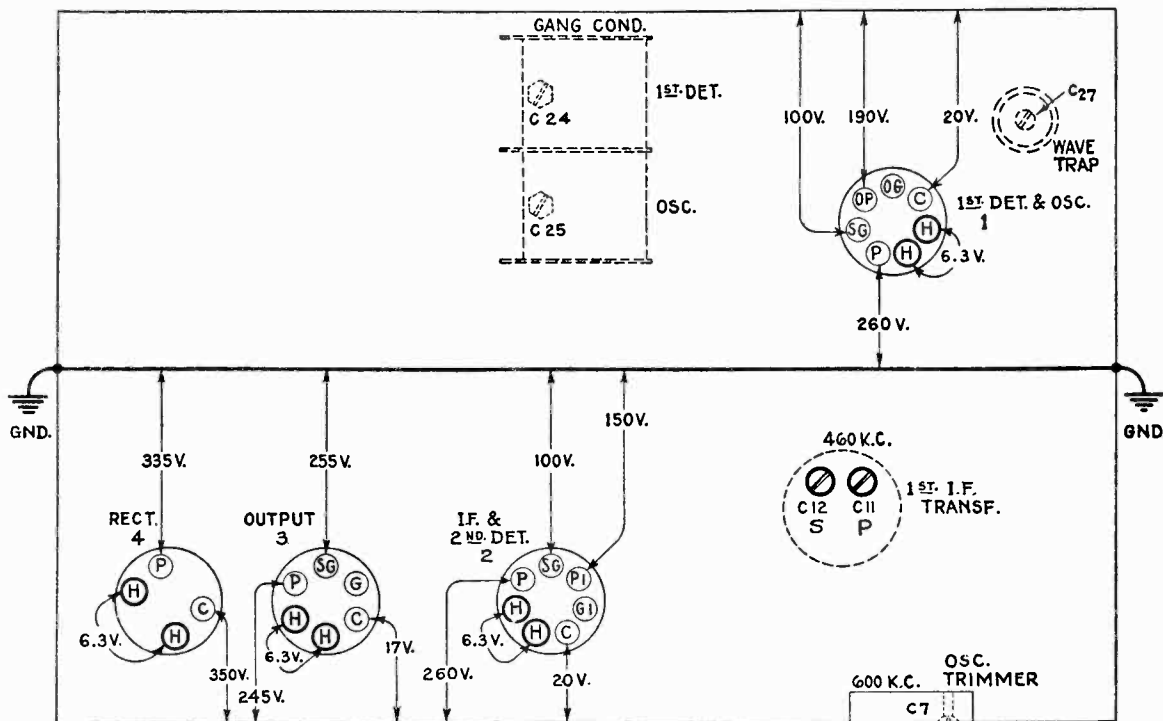

Figure 3—Trimmer Locations and Radiotron Socket Voltages to Chassis Measured at 120 volts A-C Supply—No Signal — Volume Control Maximum
Five aligning trimmers are provided, the physical locations of which are indicated on Figure 3. These trimmers are accurately adjusted during manufacturing tests and should remain in proper alignment indefinitely unless affected by abnormal conditions of temperature or humidity, or unless they have been altered for service purposes. Loss of sensitivity, improper tone quality and poor selectivity usually indicate necessity for re-alignment.
- (1) **Intermediate Frequency Amplifier**—The first i-f transformer has two trimmers identified as C-11 and C-12 on the diagram, Figure 3. Each must be tuned to 460 kc. by feeding a signal of this frequency from the Full Range Oscillator into the RCA-6A7 control grid and chassis-ground and adjusting both trimmers to the point giving maximum output. The oscillator output and the receiver volume control should be regulated so as to produce a sensitive indication on the receiver output indicator. If interference is noticed from strong local stations during these adjustments, the station selector should be tuned to a point at which they will be subdued.
- (2) **Detector and Oscillator**—A total of three adjustments are necessary on the detector and oscillator coil systems. Two of these are to be made at 1720 kc. and the other at 600 kc. The 1720 kc. trimmers are mounted on the variable tuning condenser and are accessible from the top of the chassis. The 600 kc. trimmer, which is associated with the oscillator system, is located on the rear apron of the chassis as shown by Figure 3. To align these
The voltage values indicated from socket contacts to chassis-ground on Figure 3 will serve to assist in locating causes for faulty operation when such a condition develops. Each value as specified may be expected to hold within  $\pm 20\%$  when the supply voltage is normal. Variations in excess of this limit will usually be indicative of trouble in the receiver circuits. Voltages given are actual operating values and do not allow for